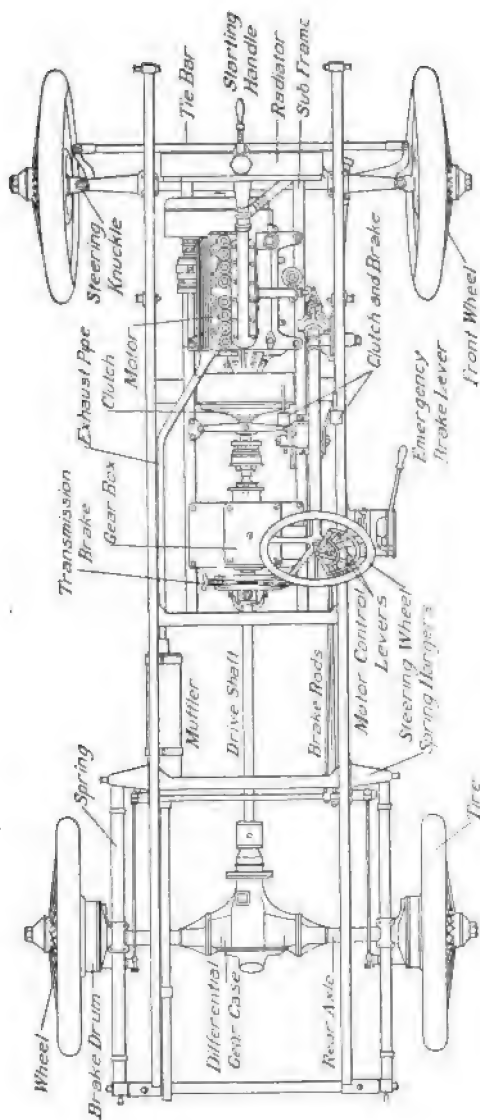

FIG. 98. — Plan view of modern pleasure car chassis.
**Parts of an automobile.** The gasoline automobile is a very complicated piece of mechanism. For the sake of simplicity, we may say that it is composed of the following parts: 1. the axles and wheels; 2. the supporting frame and springs; 3. the body or part that carries the load; 4. the power plant; 5. the clutch and gear box; 6. the power transmission system; 7. the lighting system; and 8. the mechanism by which the driver controls the car. (See figures 98, 99.)